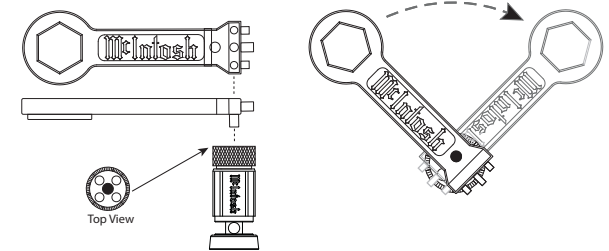

Figure 09– Tightening Binding Post
- Rotate the end of the Binding Post counterclockwise until an opening appears (see Figure 09).
- Insert the Loudspeaker hookup cable into the Binding Post's opening or the cable spade lug around the center post of the Binding Post (see Figure 09).